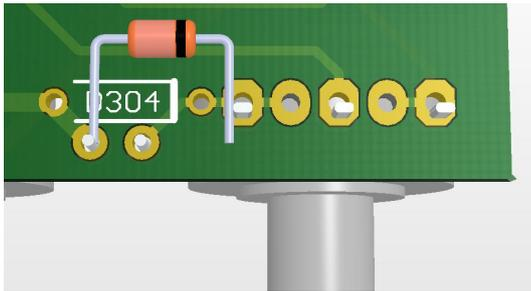

Figure 1: D304 Modification
3. Mount D304 on the underside of the PCB as shown in figure 1